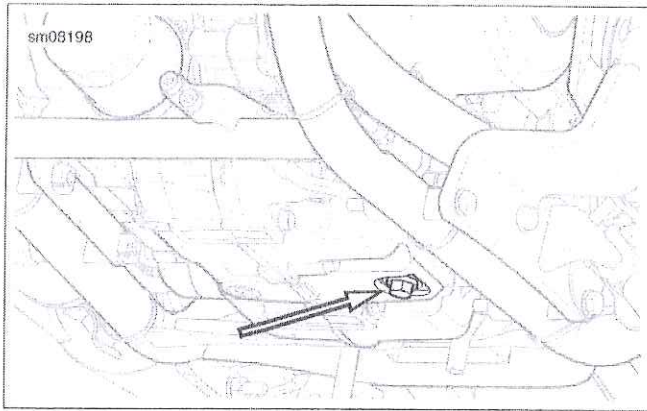

Figure 2-2. Engine Oil Drain Plug
1. See Figure 2-2. Drain engine oil.